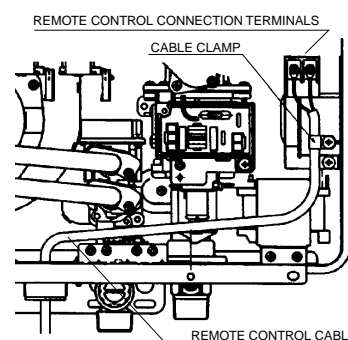

fig.2
5. Thread the 3 cables through the cable access hole at the base of the appliance. Connect the 4 spade connectors to the terminals marked "Remote Control" on the printed circuit board (fig.2). Polarity is not important. Either wire colour can be connected to either terminal.
5. Thread the 4 cables through the cable access hole at the base of the appliance. Connect the 4 spade connectors to the terminals marked "Remote Control" on the printed circuit board (fig.2). Polarity is not important. Either wire colour can be connected to either terminal.